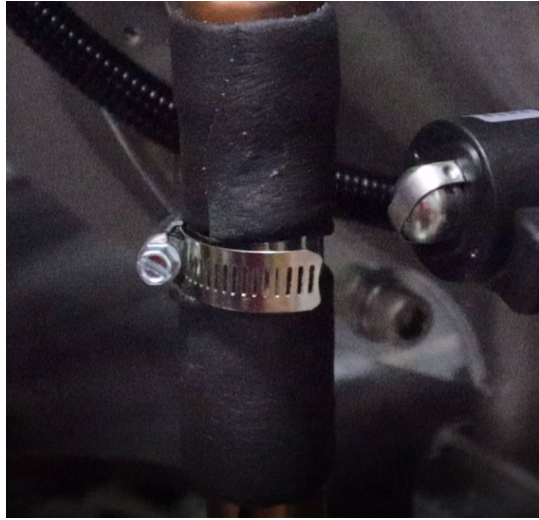

Figure 3 – Insulation Tape (second strip)
5. Apply the insulation tape to the right side of the hose clamp, covering the exposed section of the sensor. Wrap the insulation tape around the pipe in the same manner as in the previous step. Refer to Figure 3 – Insulation Tape (second strip).